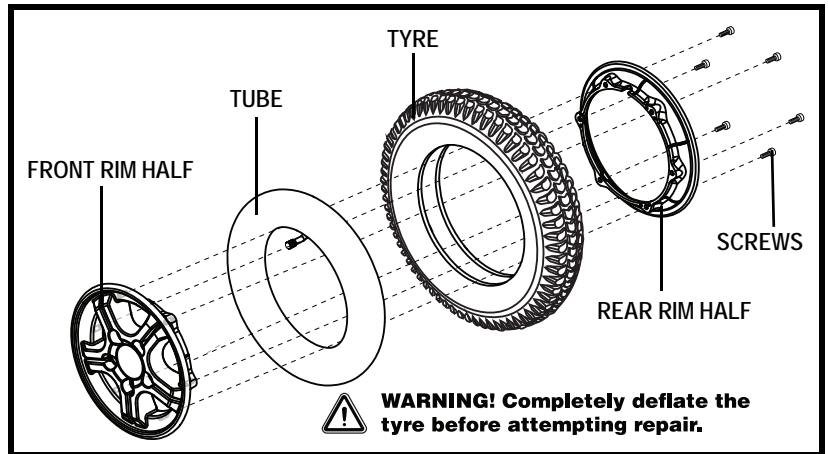

Figure 28. Fusion Drive Wheel Disassembled
6. Remove the screws and separate the front and rear rim. **See figure 28.**